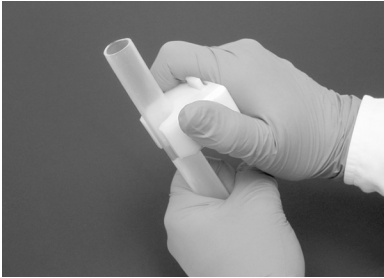

Figure 3.
5. Rotate cutter at least two full rotations around tubing (Figure 3).